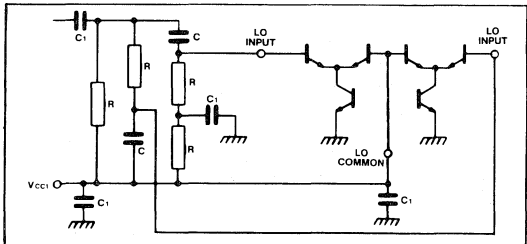
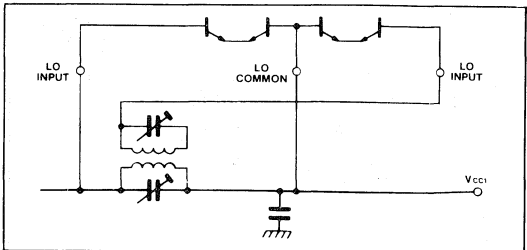
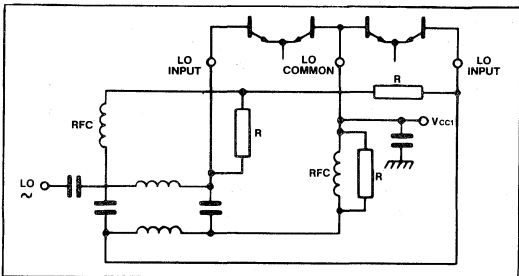

Fig.7 Quadrature LO drive
Fig.8 Quadrature LO drive using tuned circuits
Fig.10
The form of the quadrature network is not critical. However, the use of an RC network as in Fig.7 has the disadvantage at VHF of being more subject to stray capacities than other methods.
In the circuit of Fig.7,  $C_1$  is a bypass capacitor, while  $X_C = R$  at the operating frequency. Note that the resistances between the local oscillator inputs are equal to minimise DC offsets. The quadrature network can be achieved by coupled circuits (Fig.8) or a hybrid network (Fig.10).
In the method shown in Fig.8, the tuned circuits are adjusted to resonance, and are then detuned, one HF and the other LF, to achieve a 3dB drop in output from each one. This gives a  $+45^\circ$  and  $-45^\circ$  relative phase shift.
The phase relationships are (A) input, (B)  $90^\circ$ , (C)  $0^\circ$  and (D) isolated. The circuit of Fig.10 may be used.